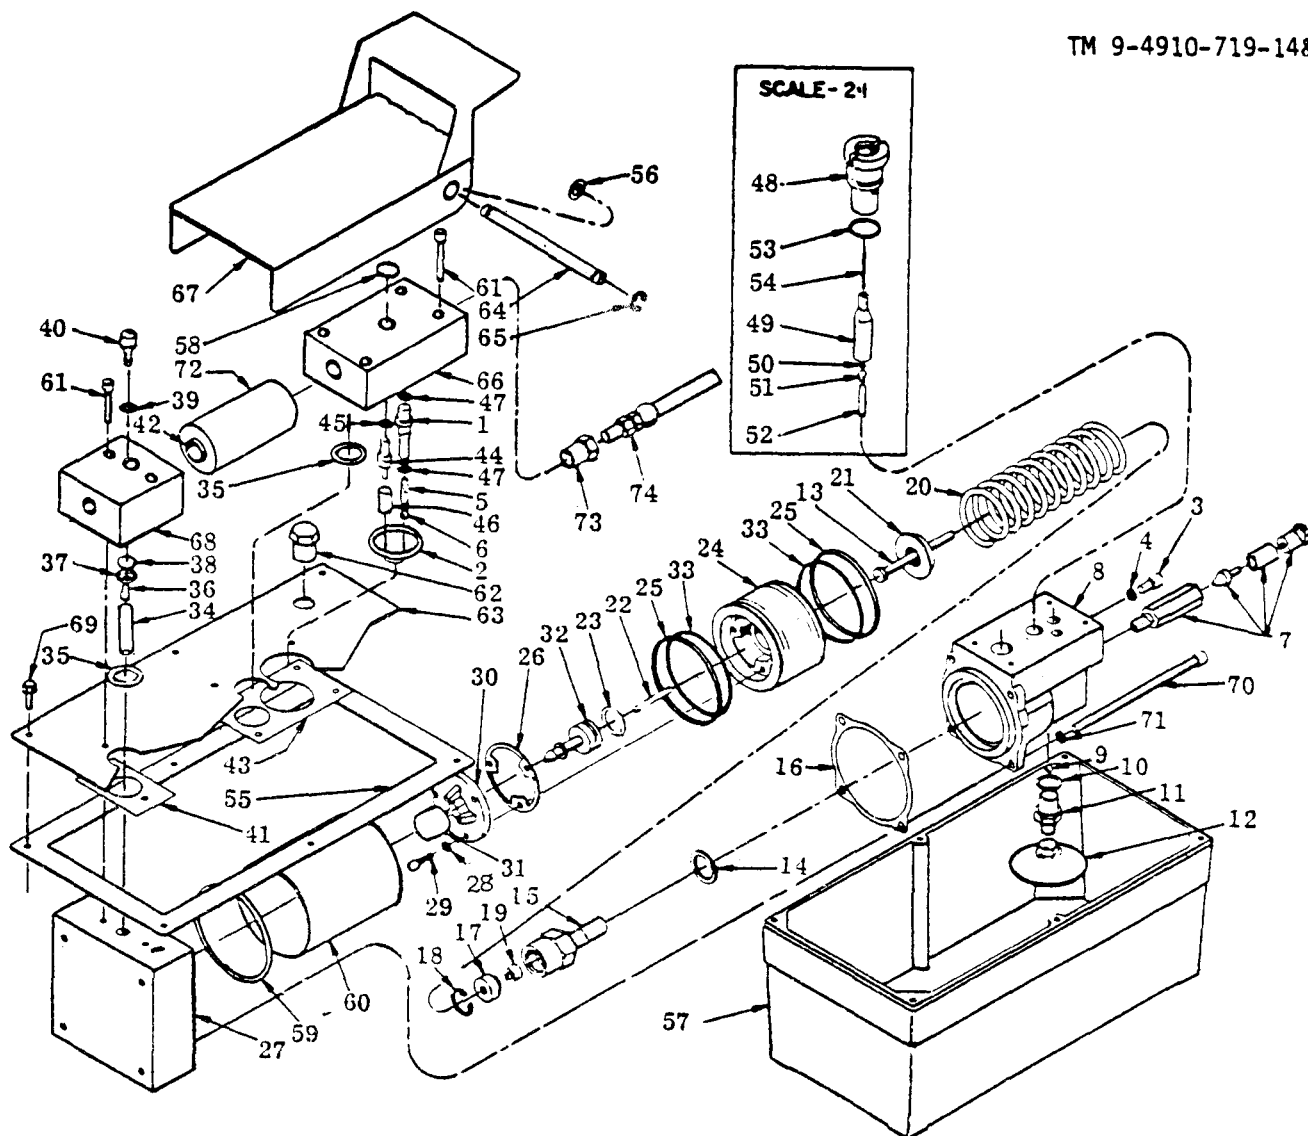

Figure 6. Air/Hydraulic Pump Parts Drawing
| Rods extend too slowly   | Insufficient hydraulic pressure from pump1. Check air supply (5-10 CFM at 100 PSI)2. Check clearance of inlet check ball (item 9, Figure 6). Ball must be flush with or below end of filter adapter.   |
| Pump does not reciprocate.   | Air piston stuck1. Check cylinder bore of pump (item 60, Figure 6) for contamination or lack of lubrication.2. Piston poppet (item 31, Figure 6) not sealing - replace.  |
| Pump extends ram but will not hold - system pressure leaks off.  | 1. Outlet check ball (item 6, Figure 6) not sealing properly correct or replace.2. Release valve mechanism not sealing properly. Check pin (item 54, Figure 6), ball (item 50), release poppet (item 49) and poppet retainer (item 48) correct or replace.   |
| Pump extends ram, but will not build to maximum pressure no visible signs of leakage.                        | 1. Check air supply - 5-10 CFM at 100 PSI.2. Check for internal leakage.A. Release valve mechanism.B. Low relief valve setting (item 7, Figure 6).C. Inlet check ball (item 9, Figure 6) not seating properly - correct or replace.  |
| Pump extends ram but will not build to maximum pressure visible sign of leakage through air exhaust muffler. | 1. Check piston subassembly.A. Replace washer, copper (item 14, Figure 6) and assemble in vertical positionB. Replace gasket (item 16, Figure 6).  |